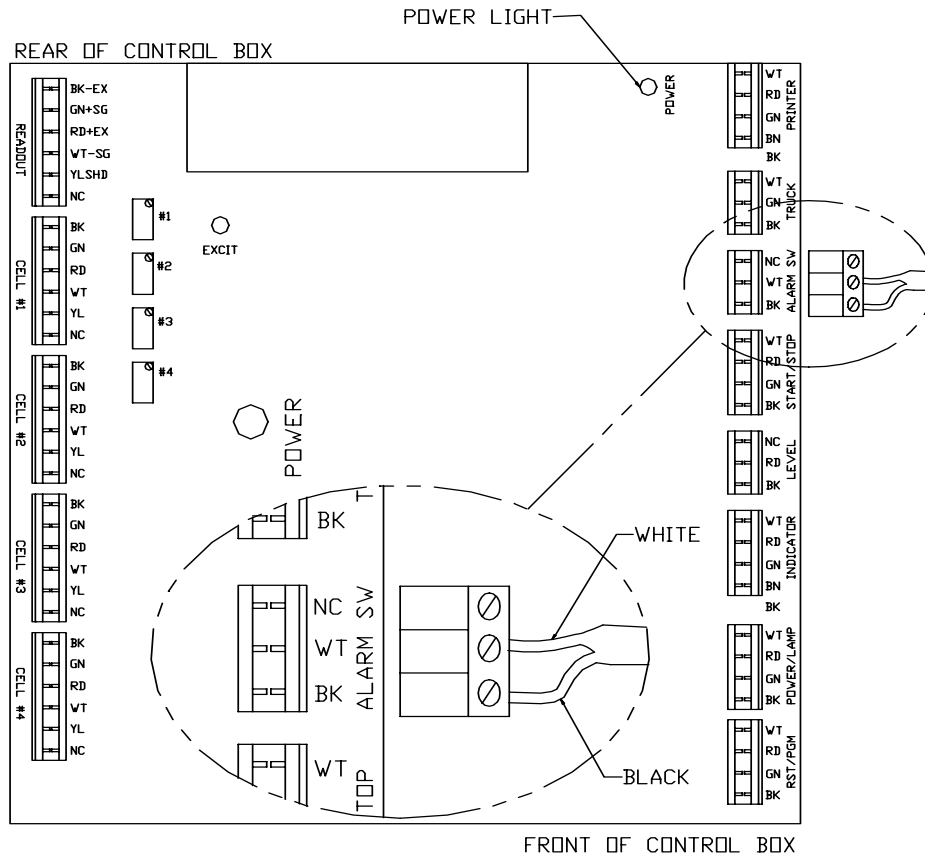

**Figure 17 – Hardware Alarm (Reed Switch) Wiring**
2. Wire to the "ALARM SW" position of the circuit board (see Figure 17).